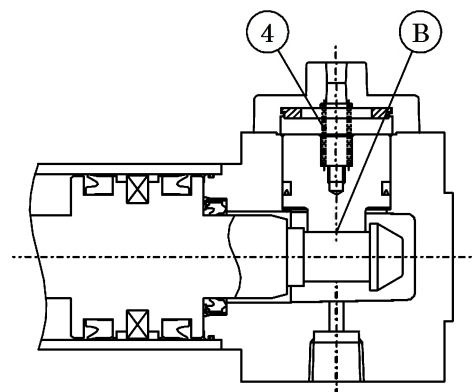

Fig.2
- (b) When the piston of cylinder further comes closer to its stroke end and the groove ⑤ of sleeve matches to the tail of stopper piston, the stopper piston drops back to the groove ⑤ due to expansion force of spring ③, generating an effect of locking the piston of cylinder. (Fig. 2)